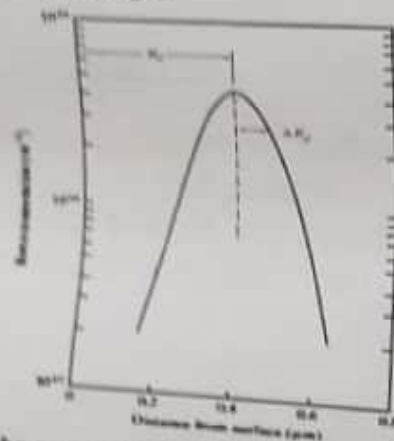

Figure 5-4
- For most implantations the ions come to rest distributed almost evenly about the projected range R_p , as shown in Fig. 5-4. An implanted dose of h ions/cm² is distributed approximately by a gaussian formula.
- where ΔR_p , called the **straggle**, measures the half-width of the distribution at $e^{-1/2}$ of the peak (Fig. 5-4).